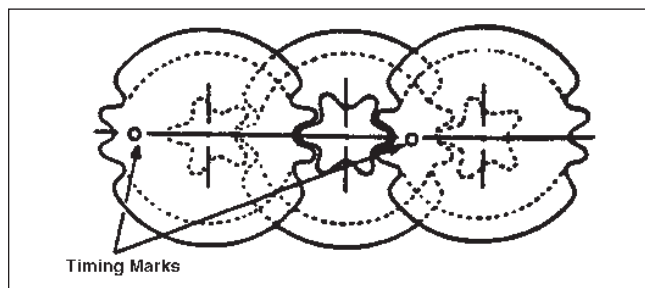

Figure 2 - Twin Gear Timing Marks
- The twin gears each have an "O" stamped on them which is used as a timing mark. The twin gears must be installed so that the timing marks both point to exactly the 9 o'clock position at the same time (See Figure 2).